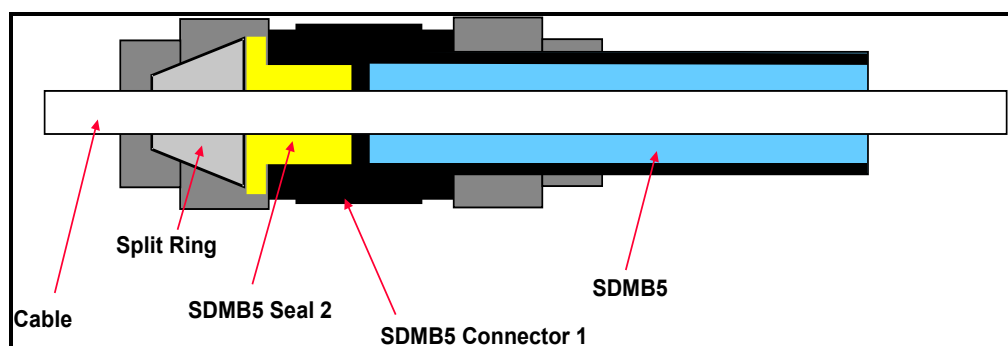

Figure 8 SDMB5 Seal 2
Seal for SDMB5 connector (SDMB5, Seal 2). This provides the seal between the cable and the SDMB5 at cable / jointing points and mid-point blowing locations, (see Figure 8).
6. Depending on cable size, fit SDBM5 Seal 1 or 2 (split seal) around cable where it emerges from each length of SDBM5. Insert into SDBM5 Connector 1 and tighten collar to compress seal to give a fully water tight cable/subduct seal, as shown in Figure 2 or Figure 8 (as appropriate).
The diagram below shows how the SDMB5 should be installed through an Off-Track Box where it allows mid-point blowing from position C (see Section 6.1.2 and Figures 8 & 9 for installation details).